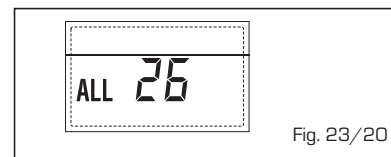

Fig. 23/20
- **ANOMALIA COERÊNCIA APLICAÇÕES SOLAR "ALL 27" (fig. 23/21)**